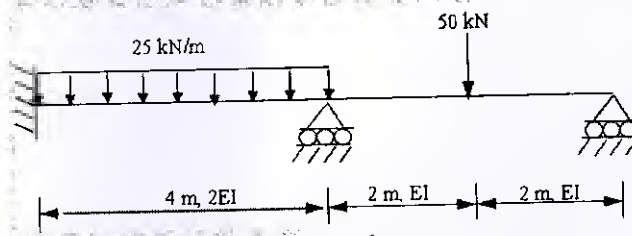

Figure 6
Q. 5. Analyse the beam as shown in figure 6 using **Generalised Stiffness method** and hence draw the SFD and BMD. 04